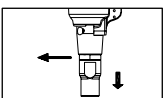

Fig.7
10. Measure nail head height first. Loosen the screw and adjust the mouthpiece to the proper position that doesn't hurt nail head surface, screw tight the screw. (See Fig. 7)